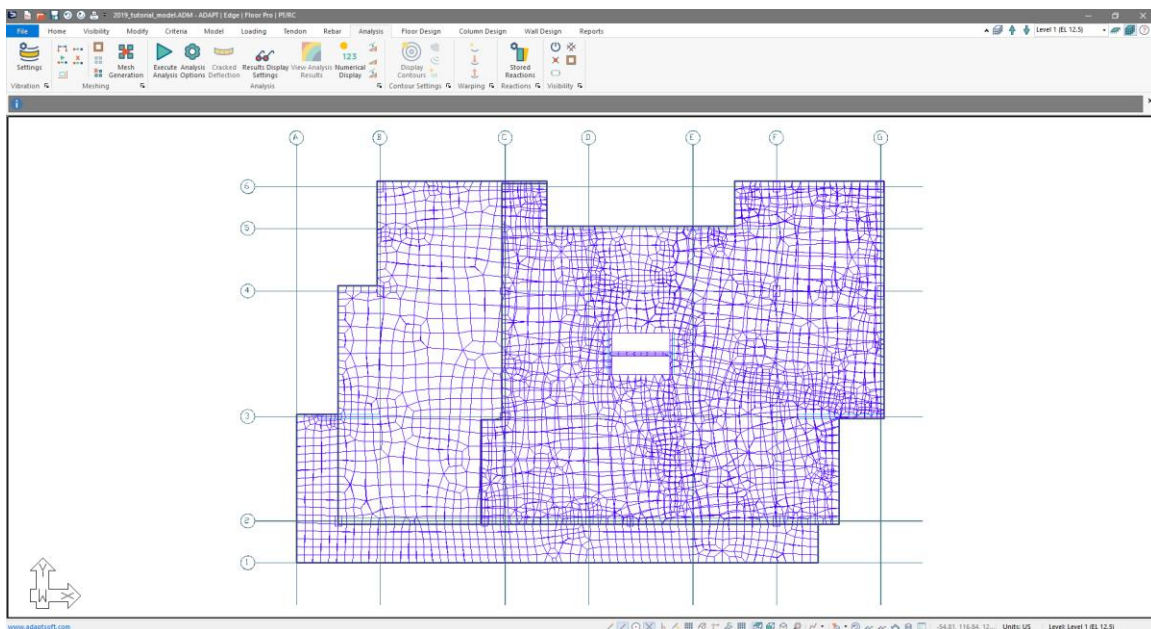

Figure 6-3
- When the program completes the meshing procedure, click on the *Top View*  icon in the **Camera and Viewports** Toolbar. This will bring you to the view of the model shown in **FIGURE 6-3**.